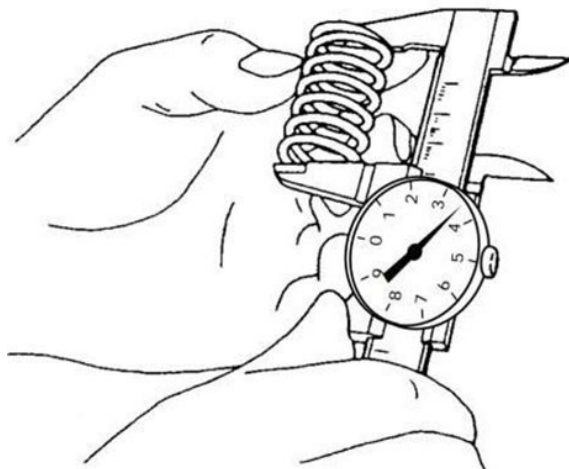

Figure 74. Valve Spring Measurement
5. Use a caliper to measure the length of the spring (Figure 74). See Valve Spring Mechanical chart for the service limit.